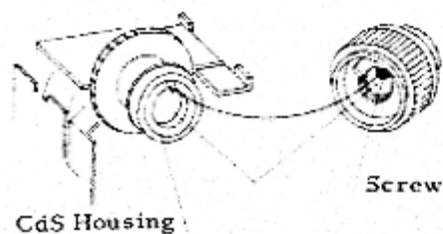

Fig. 78
1) Set Screw in the groove of CdS Housing. See Fig. 78.